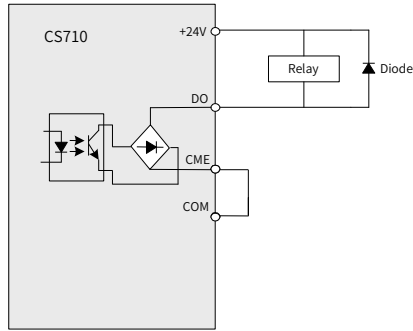

Figure 3-67 Wiring of DO
- ◆ As shown in Figure 3-67, install the absorption diode with correct polarity to prevent damage to the 24 VDC power supply.